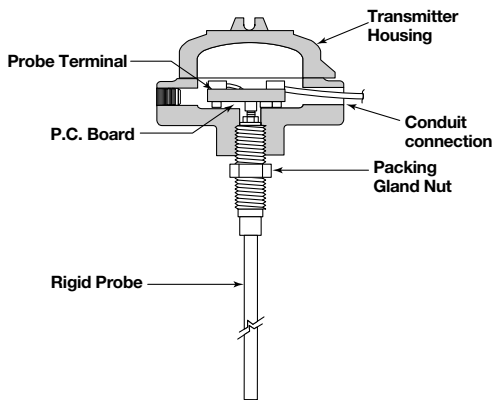

Figure 2
2. Screw the transmitter housing onto the probe until hand tight. The housing can be wrench-tightened to align the conduit connection with the conduit. Refer to Figure 2.
11. Screw the transmitter onto the probe until hand tight. The housing can be wrench-tightened to align the conduit connection with the conduit. Refer to Figure 2 on page 3.